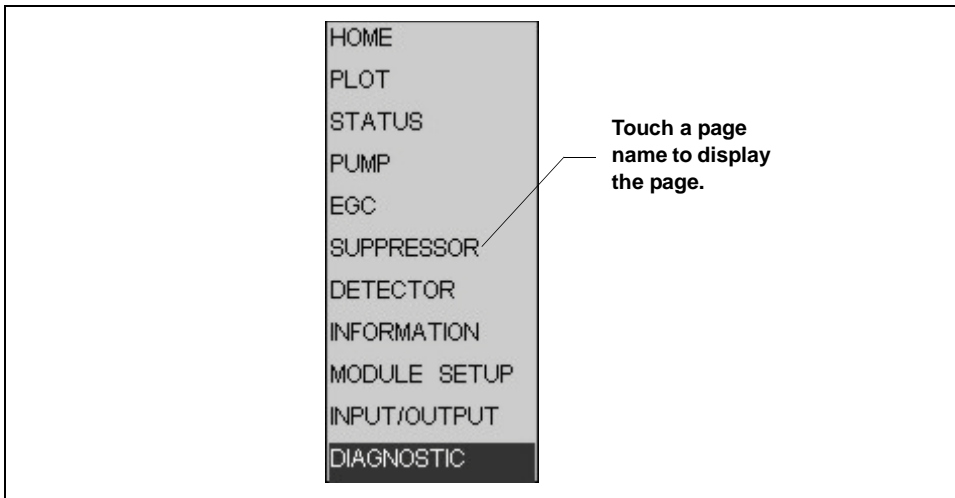

Figure B-3. Dionex ICS-2100 Touch Screen Menu of Pages
- Touching the page name (for example, ) in the bottom right corner opens a menu of pages (see Figure B-3).